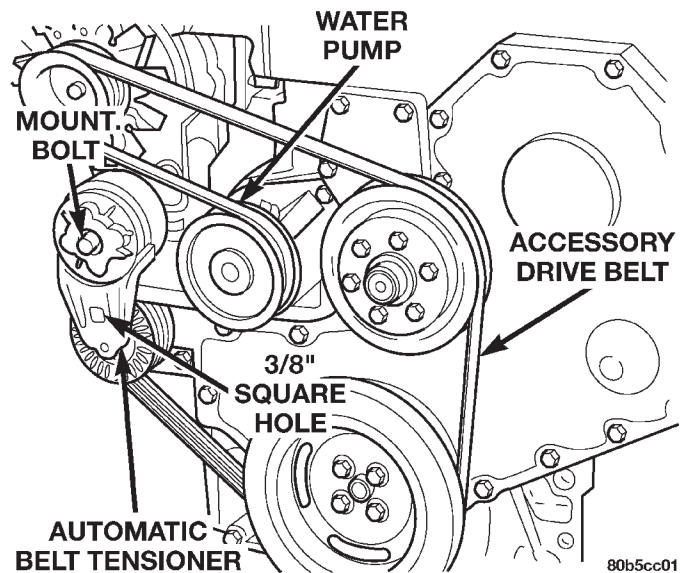

Fig. 23 Accessory Drive Belt Tensioner—Non A/C Shown
- (1) Remove accessory drive belt. Refer to Belt Removal/Installation in this group.
- (2) Remove tensioner mounting bolt and remove tensioner (Fig. 23).